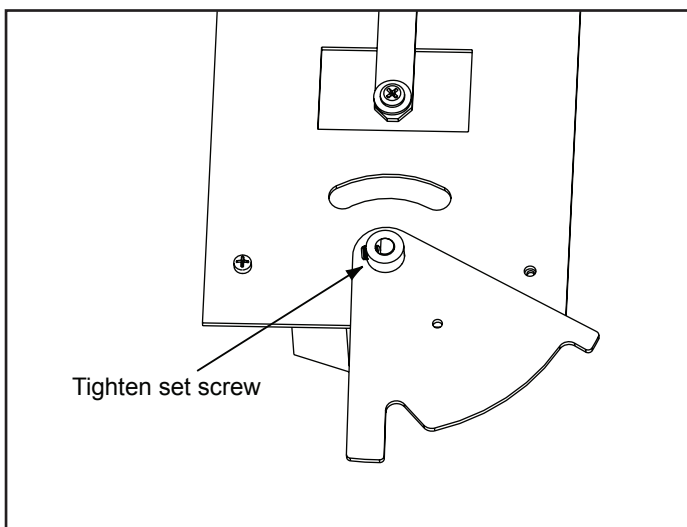

Figure 4.21 Linkage Control Arm Installed
- Place linkage control arm over timer shaft and tighten set screw, Figure 4.21.
- Rotate linkage control arm into final position and re-attach to mounting plate. Note that the D cut is now facing the linkage timer arm. Re-attach the linkage timer arm, Figure 4.21.